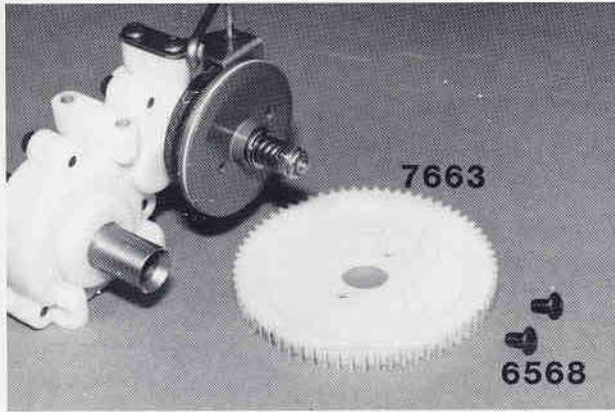
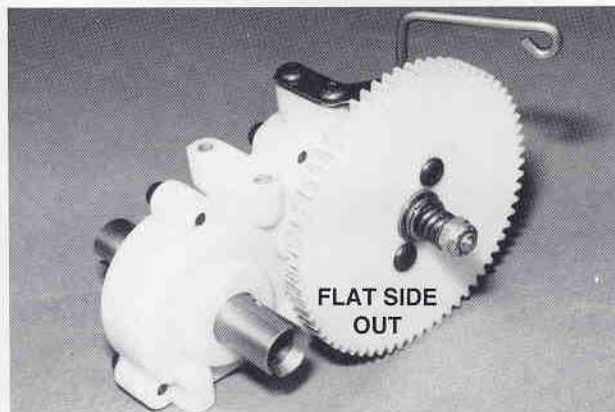

Fig. 98
Fig. 99
□ **Figs. 98 & 99** Open bag 7-15 and remove the #7663 66 tooth 32 pitch spur gear. Go back to bag F and locate the two #6568 4-40 x 3/16" BHCScrews. If you look at the spur gear you will see one side has a recessed center section and the other side is flat all the way across. Mount the spur gear on the hub with the recessed side contacting the hub, flat side out. Your installed spur gear should look like fig. 99 when properly installed and secured.